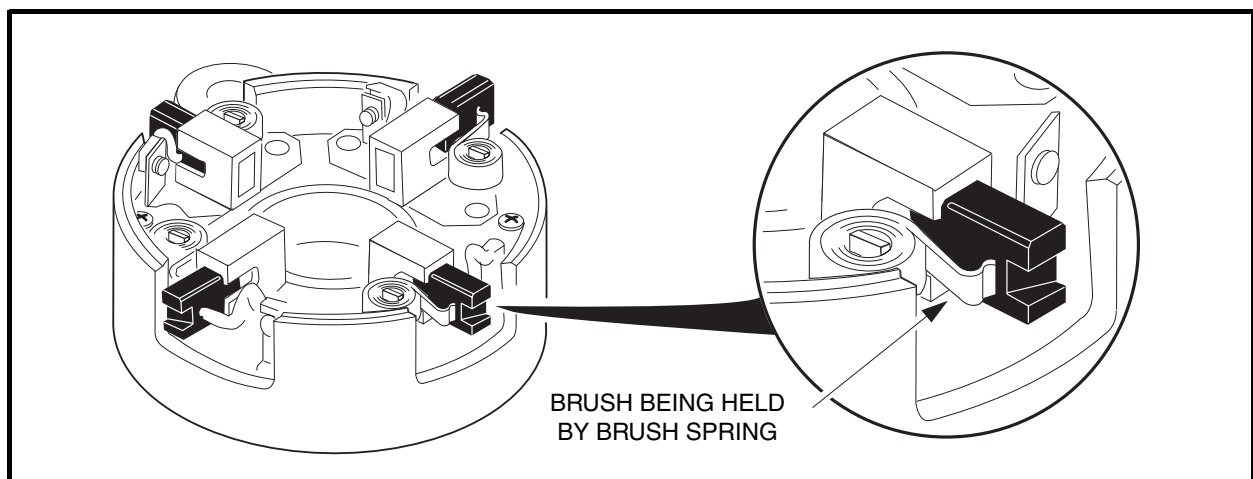

Figure 12-6 Pull Brushes Away from Center of the Commutator End Cover
NOTE: If the brushes are not removed, contact between the brushes and commutator as the commutator end cover is being removed or installed could damage the brushes. Lift the brush springs out of the notches in the brushes and pull the brushes back from the center of the commutator end cover. The springs will rest on the sides of the brushes and help prevent them from sliding towards the center of the cover (**Figure 12-6, Page 12-4**).
2. To prevent contact between the brushes and commutator as the commutator is installed, and possible damage to the brushes, lift the brush springs out of the notches in the brushes and pull the brushes back from the center of the commutator end cover. The springs will rest on the sides of the brushes and help prevent them from sliding towards the center of the cover **(Figure 12-6, Page 12-4)**.
- 1.1. Lift the brush springs out of the notches in the brushes and pull the brushes back from the center of the commutator end cover. The springs will rest on the sides of the brushes and help prevent them from sliding towards the center of the cover **(Figure 12-6, Page 12-4)**.
8. To prevent contact between the brushes and commutator as the commutator cover is installed, and possible damage to the brushes, lift the brush springs out of the notches in the brushes and pull the brushes back from the center of the commutator end cover. The springs will rest on the sides of the brushes and help prevent them from sliding towards the center of the cover (**Figure 12-6, Page 12-4**).